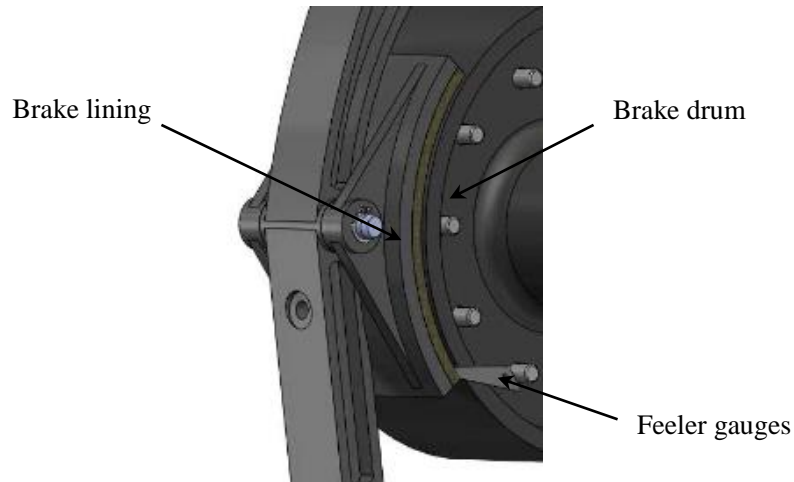

Figure 14 Normal Brake gap
2. Measure the gap at the bottom of the Brake Lining and the drum, verify it is 0.1-0.5 mm (0.004"~0.02") with feeler gauges, and make sure the gap is about uniform from top to bottom. If the gap of the top is too big, tighten the bolt clockwise to reduce it. If the gap is too small, loosen the bolt counter-clockwise to increase the gap. See Figure 14.